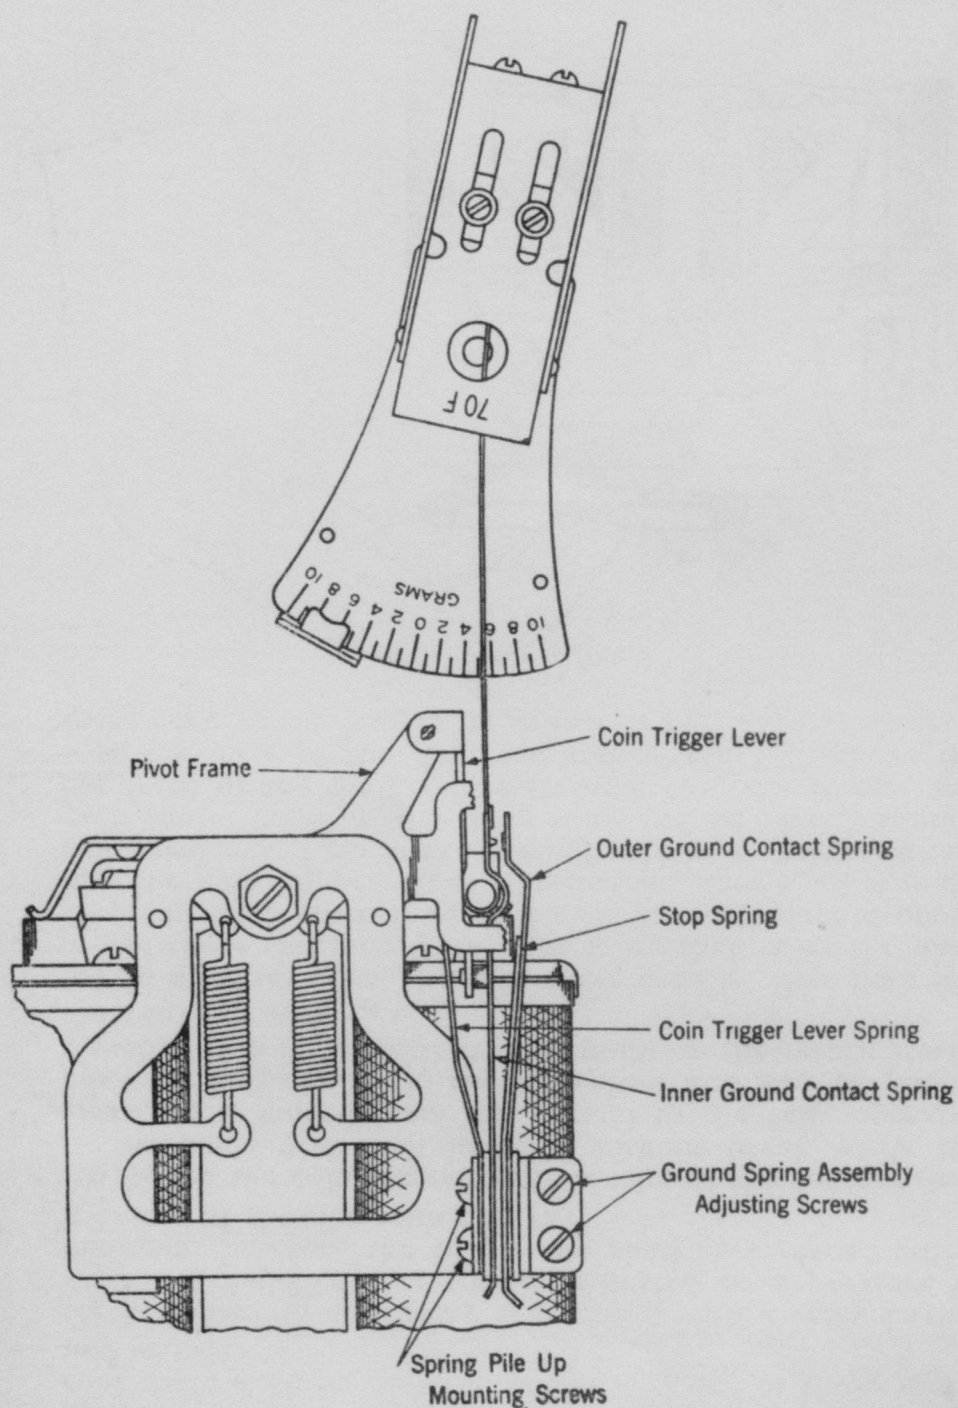

Fig. 21.
- (a) If the chute is designated P-242923, P-243570, D-96591 or D-96720 the ground spring contact pressure shall be minimum 5 grams, that is, with the trigger tripped the force required just to open the contacts shall not be less than 5 grams. This pressure shall be measured with No. 70F gauge as shown in Fig. 21.